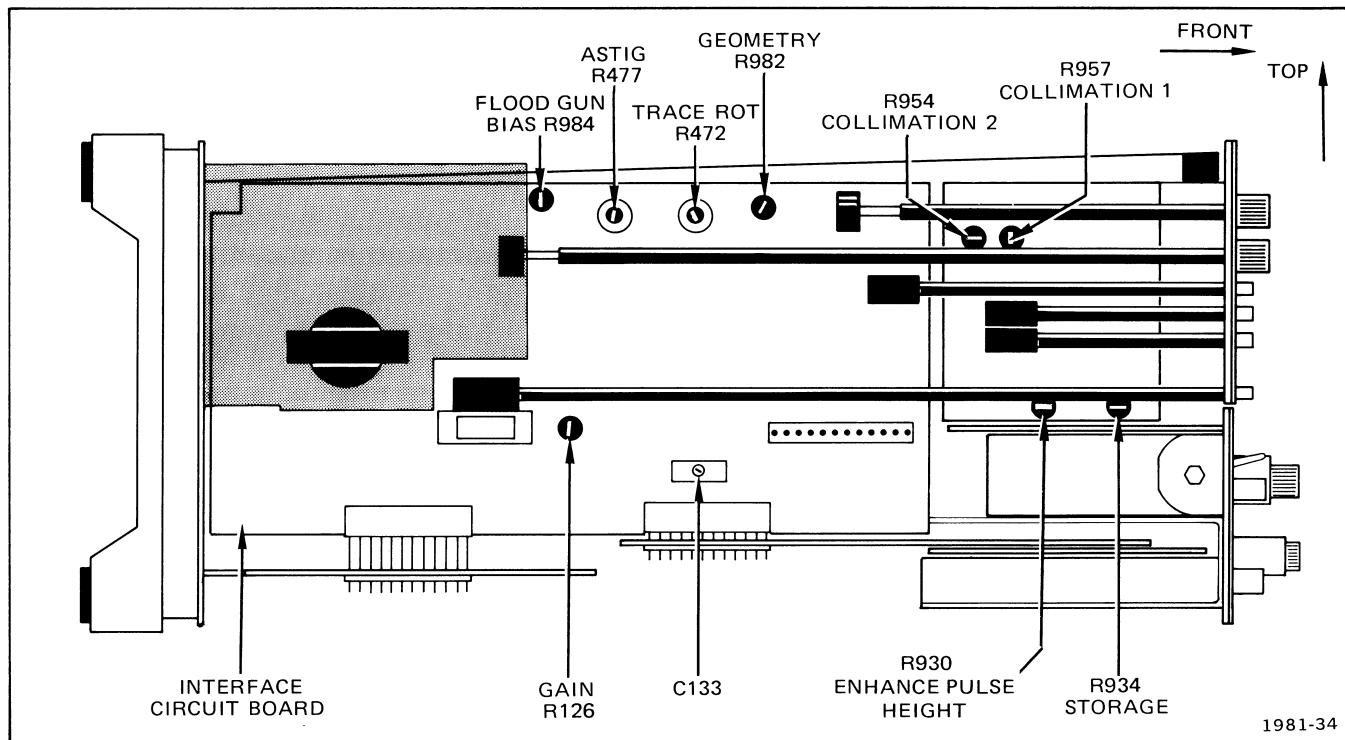

Fig. 4-2. Interface board adjustment locations.
- e. ADJUST—Geom, R982 (see Fig. 4-2) for best alignment of markers with the vertical graticule lines.
e. ADJUST—R984 (see Fig. 4-2), Flood Gun Bias, counterclockwise until shadows appear in corners, then turn it 10° further clockwise.
f. Rotate R957 (see Fig. 4-2), Collimation 1, fully counterclockwise.
h. Rotate R954 (see Fig. 4-2), Collimation 2, fully counterclockwise.
p. ADJUST—R934 (see Fig. 4-2), Storage Level, as necessary, for no breaks and maximum contrast over center eight divisions, while storing and erasing single sweeps.
b. Refer to Fig. 4-2 for location of adjustments in the remainder of this step. If storage circuitry has had major repairs or if misadjustment of controls is suspected, preset R984, R934, R957, and R954 (also R930 for SN B011467-up) to mid-range; otherwise, leave them as previously set and proceed with part c.
- b. Set Gain, R126 (see Fig. 4-2), to physical midrange.
- f. Adjust Gain, R126 (see Fig. 4-2), so trace aligns with third graticule line above center horizontal graticule line.